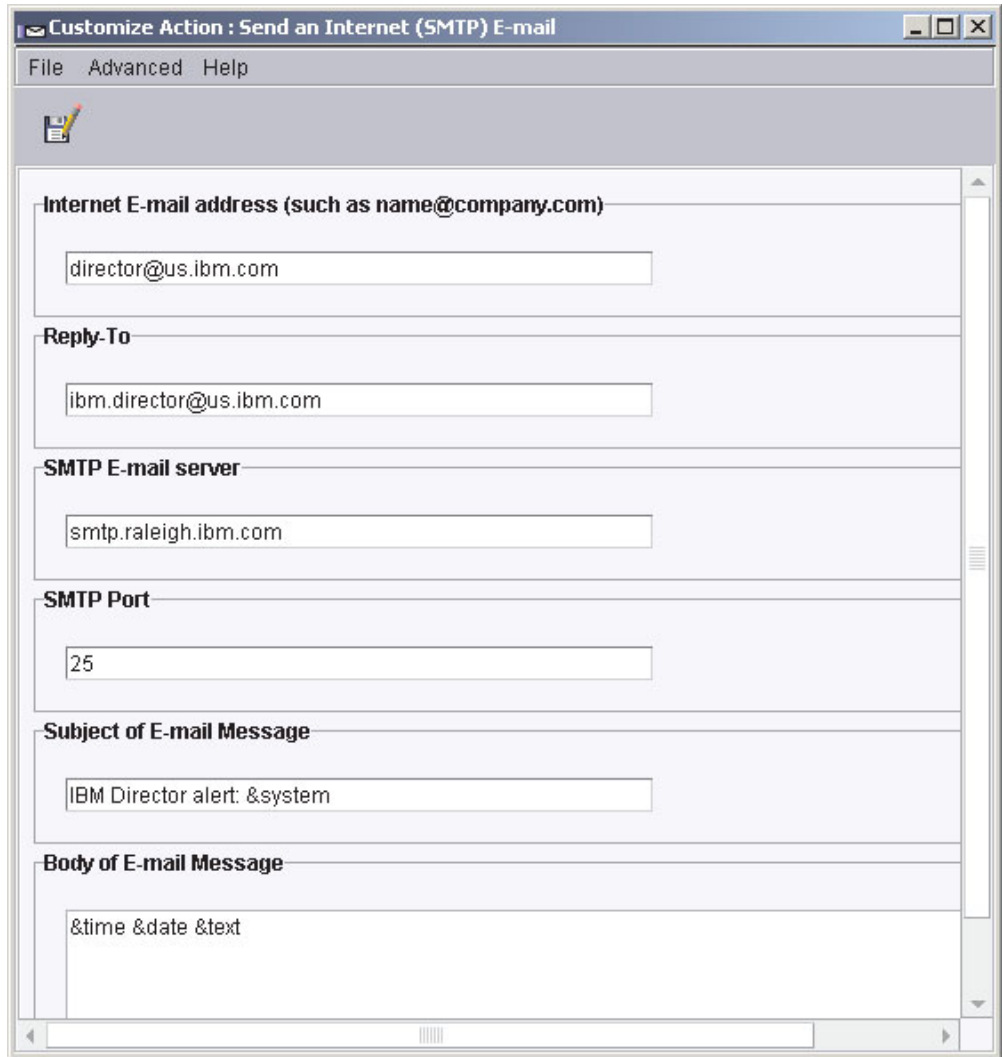

Figure 89. Customize Action window displaying example values
2. Complete the fields. See Figure 89 on page 160 for example values.